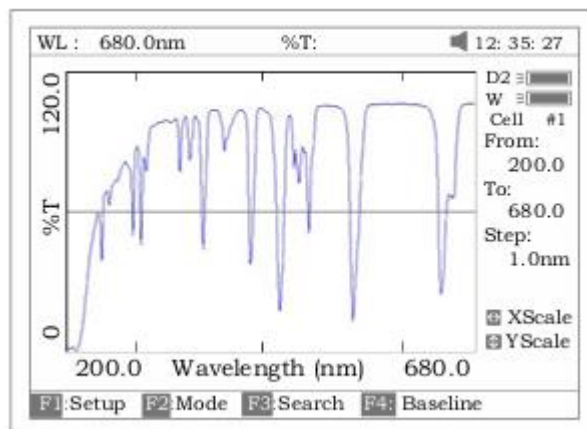

Fig.14
- Press the key [SAVE] in Fig 14 to save the curve.